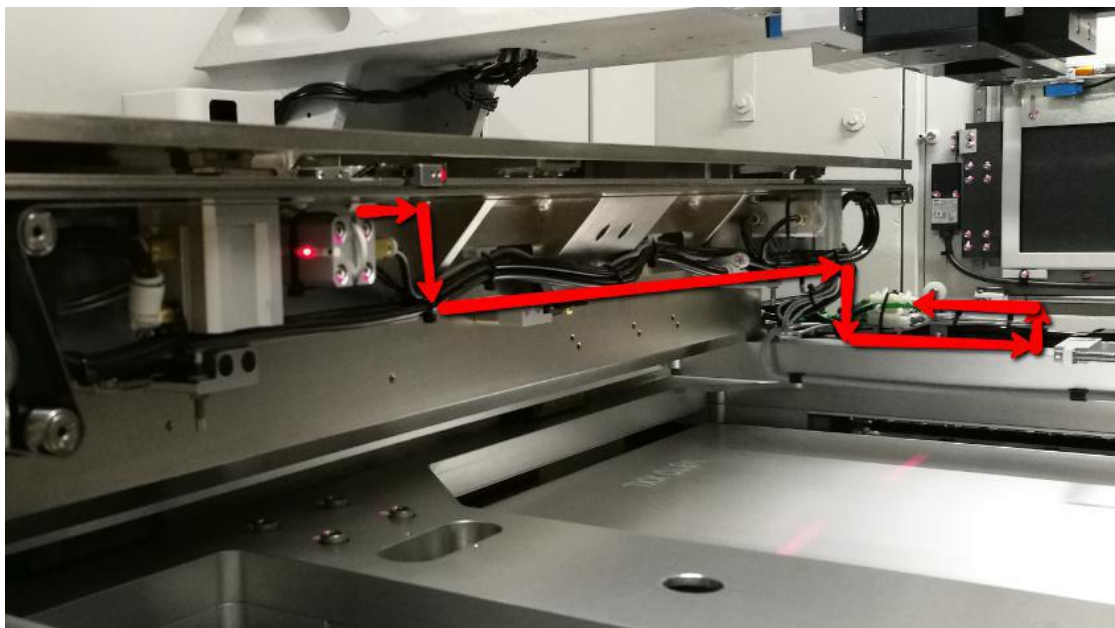

Figure 29 Right PIP In Reed Sensor Removal
7. Remove defective Right PIP In Reed sensor by following direction as shown in Figure 29 below.